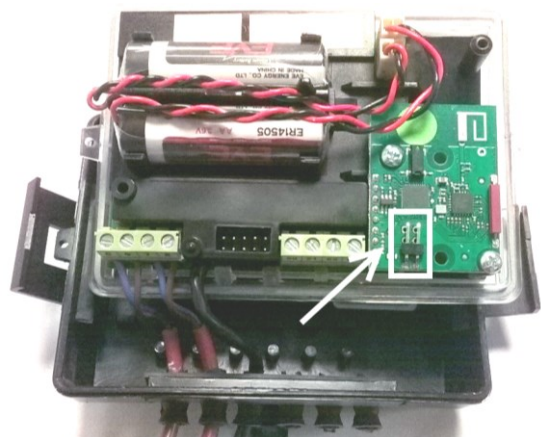

Fig. 5.4. Installation the Radio wM-Bus module in the meter's calculator.
2. Remove the jumper from the pins of the radio wM-Bus module, if jumper is installed (see Fig. 5.4.).